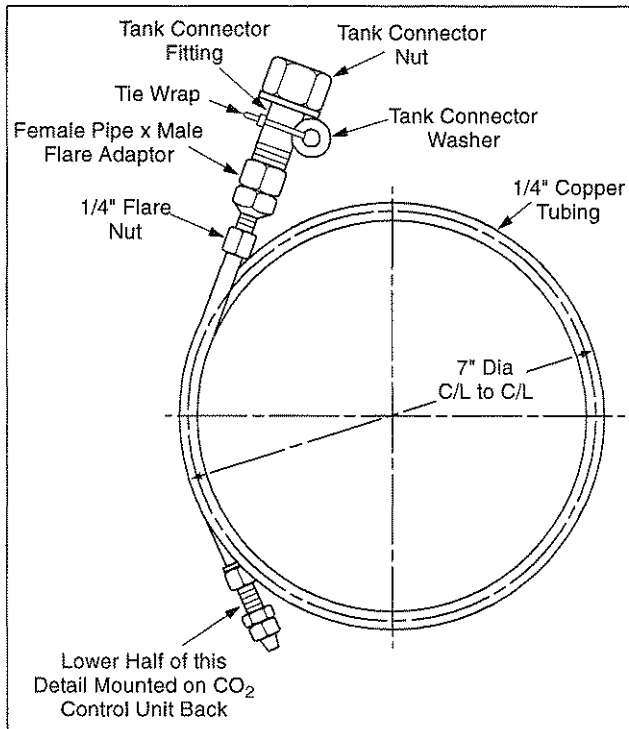

Figure 5. CO₂ Supply Tube Assembly
1. Install the CO₂ supply tube (refer to Figure 5).
1. Install the CO₂ supply tube (refer to Figure 5 on page 4).